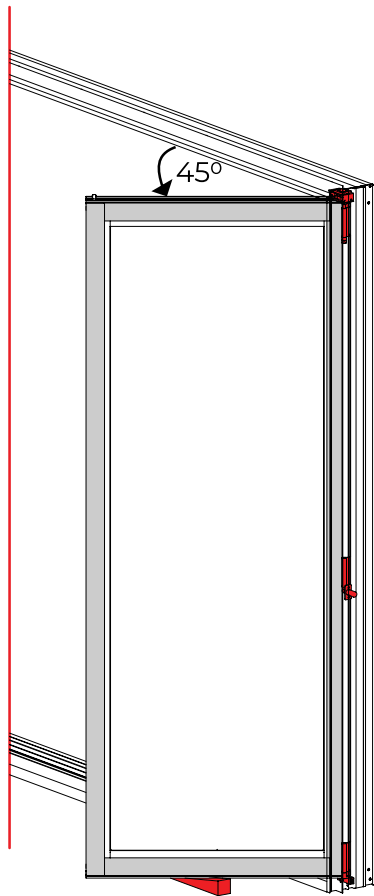

FIG 37
- Once the Node 1 hinges are installed, place first panel at 45° Angle from the Pivot Jamb. Use a temporary setting block and shims to support and hold the panel in this position. **[FIG 37]**